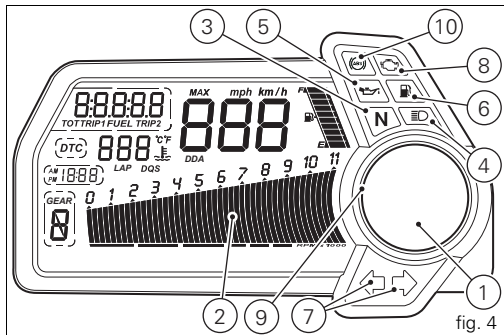

fig. 4
- 9) Limiter light "Over rev"/ traction control light "DTC" (RED) (fig. 4):
- 10) ABS LIGHTS  (AMBER YELLOW) (fig. 4). This turns on to indicate that ABS is disabled or not functioning.